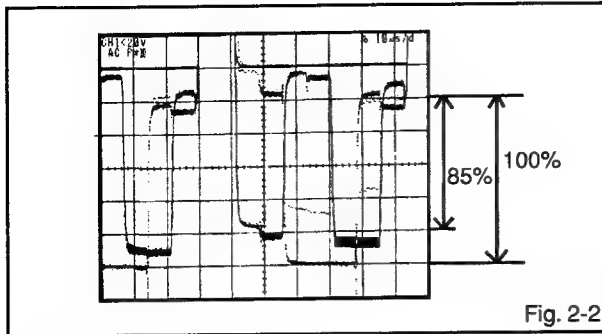

Fig. 2-2
6. Press the VOL. UP/DOWN button on the remote control until the red color level is adjusted to $85 \pm 10\%$ for the white level. (Refer to Fig. 2-2)